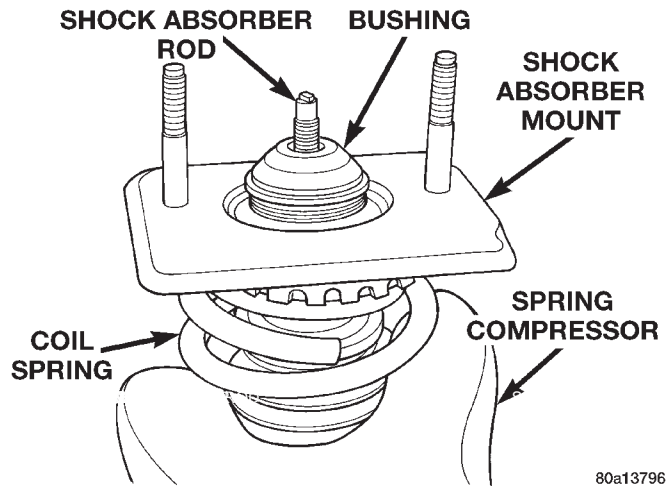

Fig. 56 Shock Absorber Mount And Bushings
(7) Remove the shock absorber mounting bracket, bushings and sleeve (Fig. 56) as an assembly from the shock absorber.
(9) Install the shock absorber mounting bracket and isolators as an assembly on the rod of the shock absorber assembly (Fig. 56).